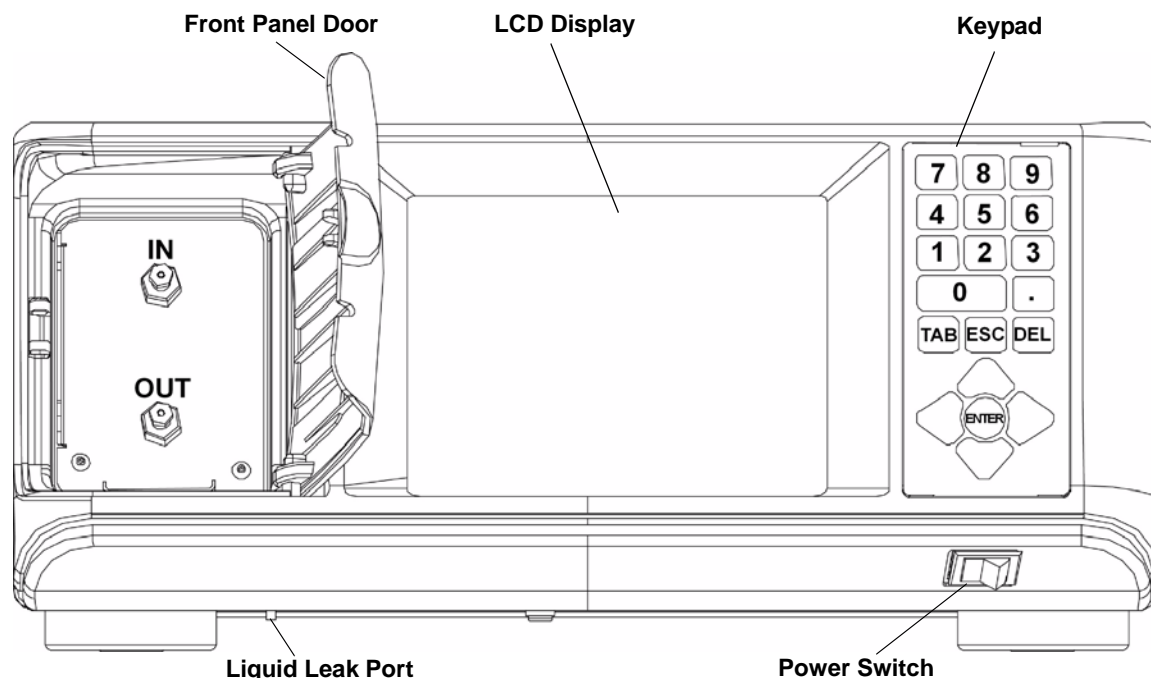

Figure 2-1: Front panel
The front panel, see Figure 2-1, provides fluid connections for the Optilab rEX and all of the necessary functions and displays for operating the instrument and monitoring data.
4. **Make fluid connections.** Standard HPLC fittings: 1/16 in. OD tubing, 10-32 threads. The Optilab rEX should be connected *last* in line if other detectors are to be connected in series. (See also “Fluid Connections” on page 4-7.) The IN and OUT ports are located behind a door on the front panel (see Figure 2-1).
5. **Flush the Optilab rEX in purge mode.** Use 20 mL of co-miscible solvents stepwise as necessary to prepare the cell for data collection. (See also “Purging the Optilab rEX” on page 4-9.) Tab to the **Purge On/Off** button using the front panel arrow keys (see Figure 2-1).